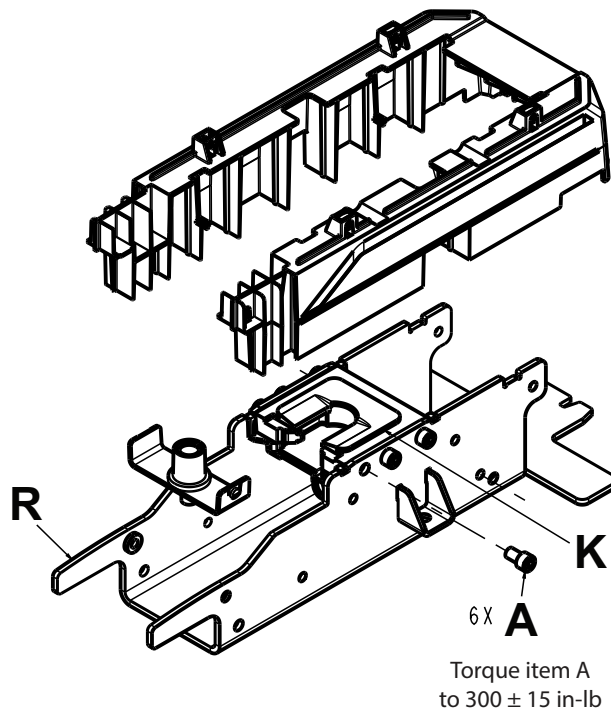

Figure 3 – Replacing the foot end interface assembly
- Using a 1/4" hex wrench, remove the six screws (A) that secure the foot end interface assembly (K) to the foot end weldment (R) (Figure 3). Save the screws.